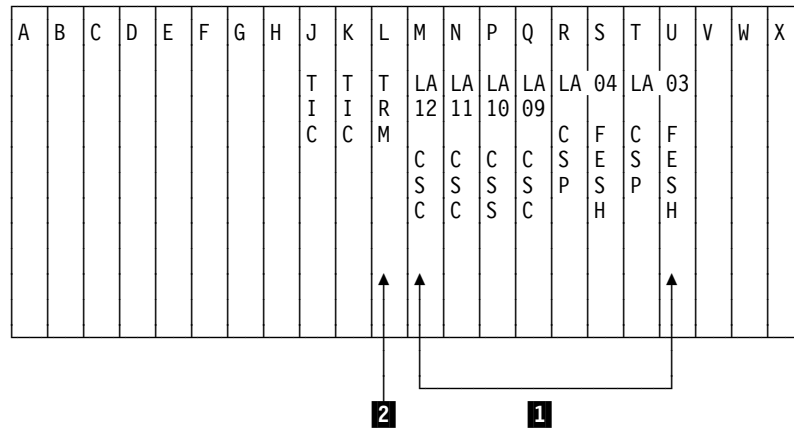

Figure 6-8. Basic Board of a 3745 Model 17A (01G-A1)
- a. \_\_\_\_ A **BPC1** is required in all the free positions normally occupied by a **CSC**, **CSP**, or **FESH** card (position 01G-A1 M4 to 01G-A1 U4, see Figure 6-8 **1**).
- b. \_\_\_\_ A **BPC2** is required in position 01G-A1 L4 if the **TRM** card is not installed in this location (see Figure 6-8 **2**).
- c. \_\_\_\_ Plug a **BPC1** in all the free positions from location 01G-A1 M4 to 01G-A1 U4 (see Figure 6-8 **1**).
- e. \_\_\_\_ Plug the **BPC2** card in location 01G-A1 L4 (if this location is empty, see Figure 6-8 on page 6-9 **2**).